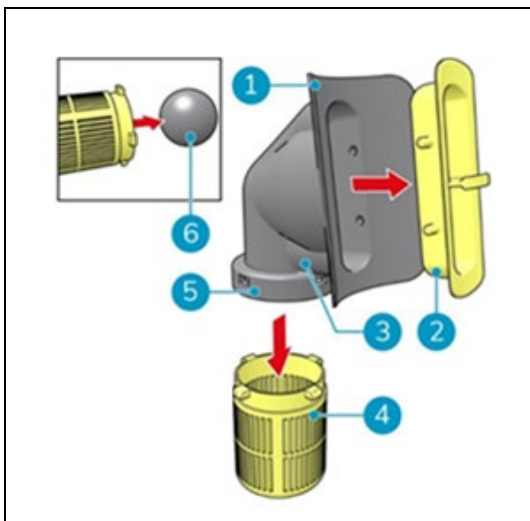

Figure 32
4. Pull the support frame (Figure 32, pos 2) out of the rubber housing (Figure 32, pos 3). To do this, bend the rubber flaps (Figure 32, pos 1) outwards to release the 4 nocks of the support frame.
5. Pull the float ball housing (Figure 32, pos 4) out of the rubber housing. To do this, bend the rubber ring (Figure 32, pos 5) outwards to release the 4 nocks of the float ball housing.
6. The floating ball (Figure 32, pos 6) comes out.